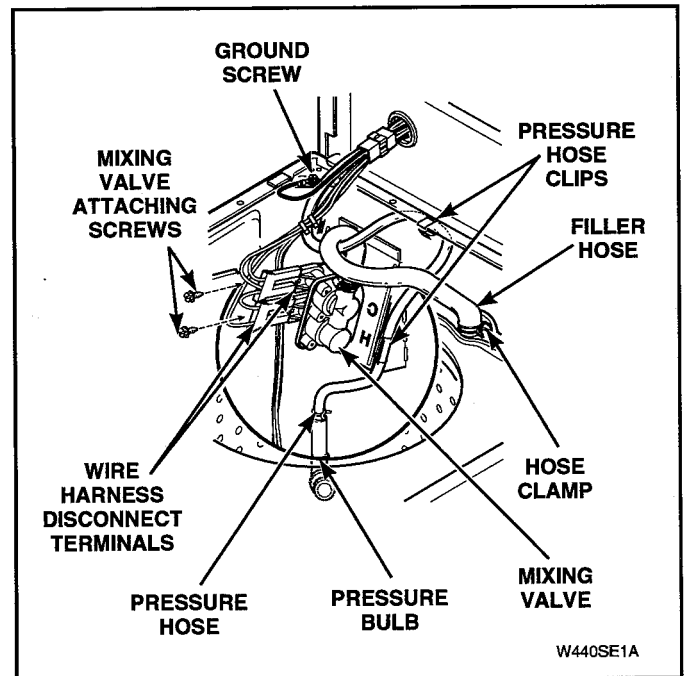

Figure 5-25
- Then remove pressure hose from clips located on mixing valve cabinet flange and the top flange at rear of cabinet. See Figure 5-25.
- Remove two screws holding mixing valve to mounting bracket at rear of washer cabinet. See Figure 5-25.
- Pull mixing valve out toward front of washer far enough to permit disconnecting water inlet and fill hoses from mixing valve. See Figure 5-25.
- Remove wires and quick disconnect blocks from mixing valve solenoid terminals. See Figure 5-25.